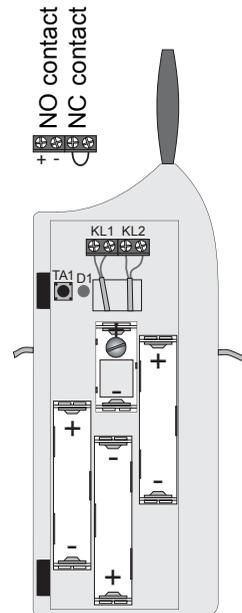

Figure 23
These must be NC contacts (normally closed), which must use the 'KL2' connection. See page 31, figure 23.
- To complete the monitoring, NO contacts (normally open) can also be used on the door/window detector (use connection 'KL1', see page 31, figure 23).